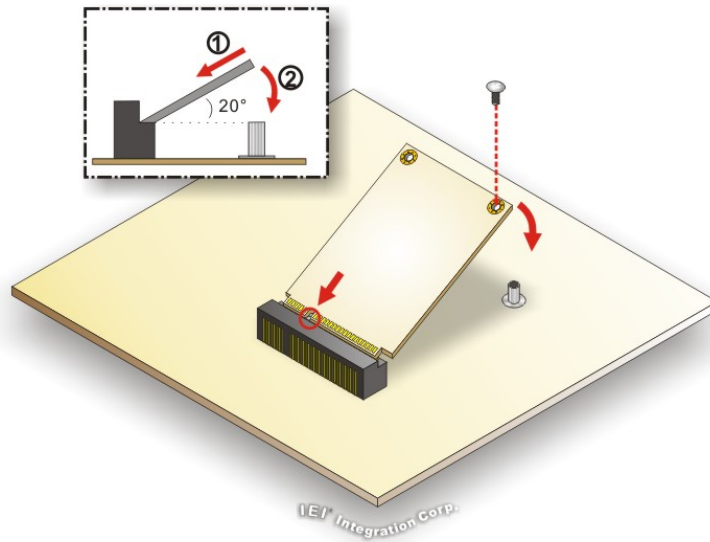

Figure 3-6: mSATA Module Installation
- Step 4:** Secure the mSATA module with the retention screw. Push the other end of the mSATA module down and secure the module with the previously removed retention screw **(Figure 3-6)**.